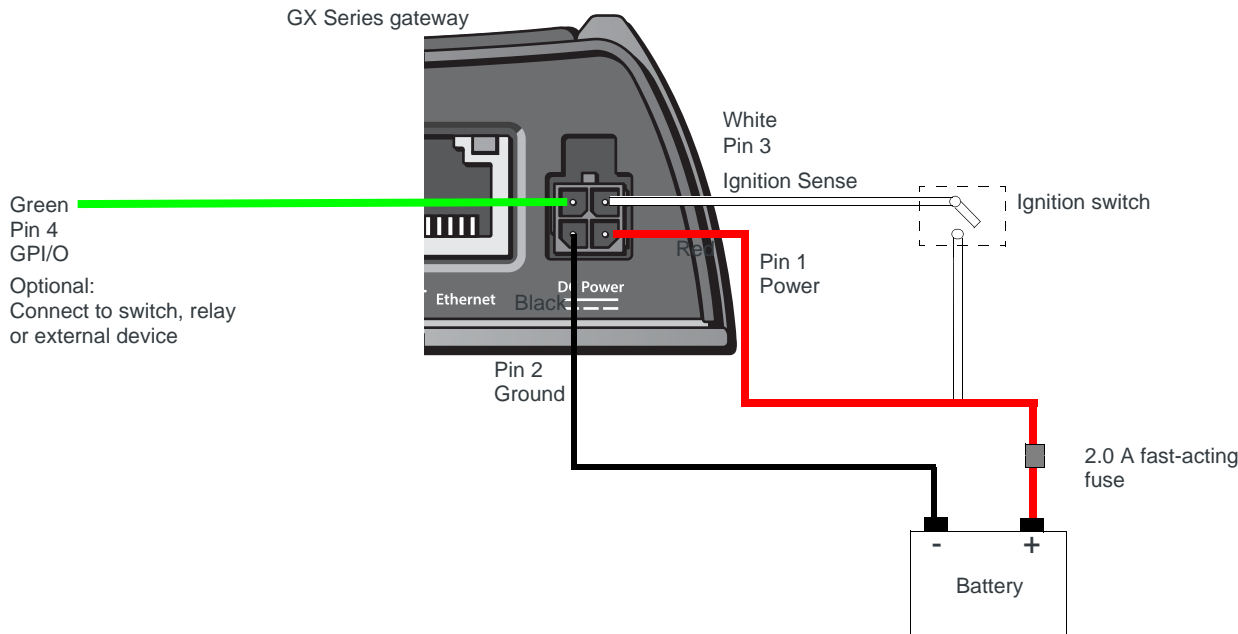

Figure 2-20: DC power cable connections (Colors indicate DC cable wire colors.)
For DC installations, Sierra Wireless recommends fusing the power input using a 2.0 A fast-acting fuse. Install the fuse on the positive line, as shown in Figure 2-20 on page 36. For vehicle installations, use an automotive fuse.
*Note: Sierra Wireless strongly recommends that you use an unswitched VCC, with Pin 3 (white wire on DC cable) connected to the ignition (if you want the GX on when the ignition is on) or connected to a low voltage monitor (if you want the GX to turn off when the voltage drops below a defined level) See Figure 2-20 on page 36. This is particularly important for when the input power supply is not constant, such as vehicle installations.*
See Figure 2-20 and Table 2-4.